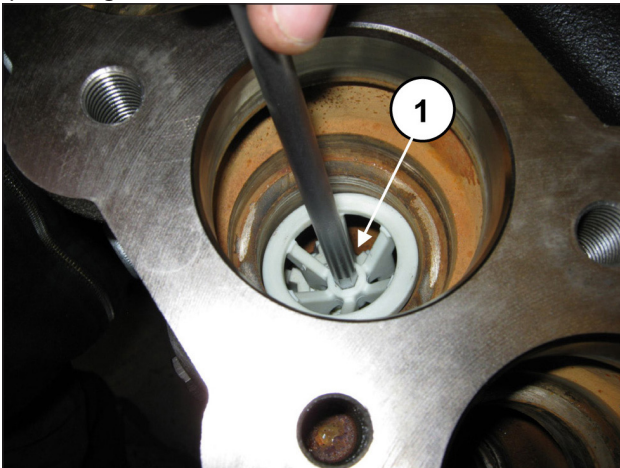

Fig. 106
Remove the valve guide spacer inserting an 8 mm hexagon spanner in the housing and lifting it to facilitate removal (pos. ①, Fig. 106).